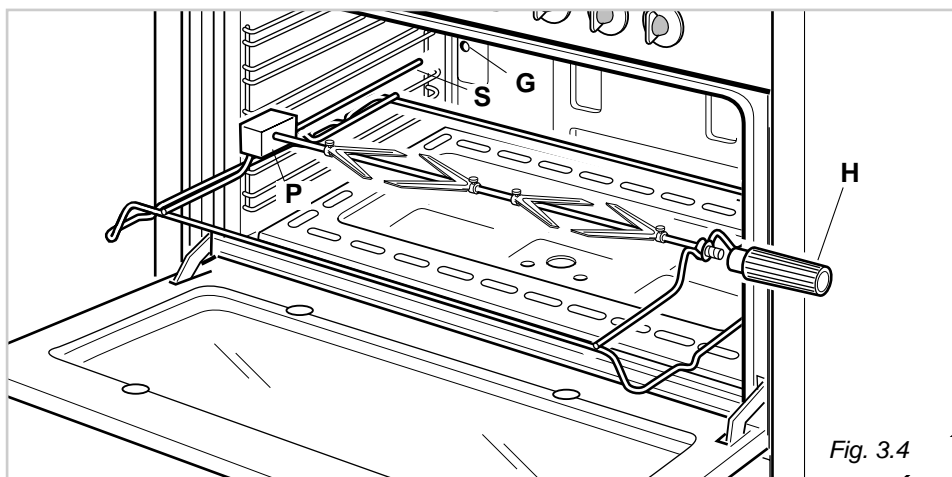

Fig. 3.4
- Insert the rod into the side gear opening "P" (fig. 3.4)